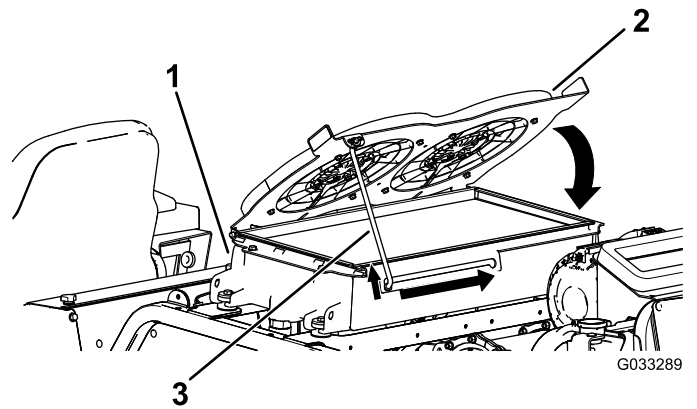

Figure 89
4. Pivot the hydraulic-cooling fans downward and lock the prop rod into the notch (Figure 89).